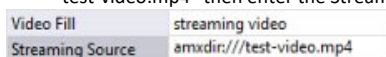

Fig. 168 TPDesign5 - Streaming Source (State) property
10. For the Streaming Source property, enter the filename of the video file with **amxdir:///** as the prefix. For example, if the video filename is "test-video.mp4" then enter the Streaming Source as "amxdir:///test-video.mp4" (FIG. 168):